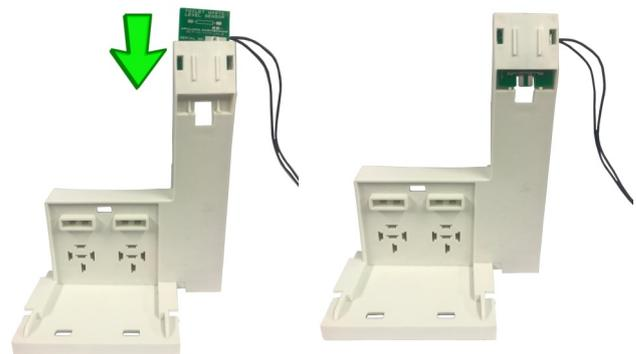

Figure 4
6. Run the cables back where they originally came from and slot the new PCB back into the plastic assembly slot (See Fig.4) making sure the writing is pointing forwards and the wires are coming out the back.